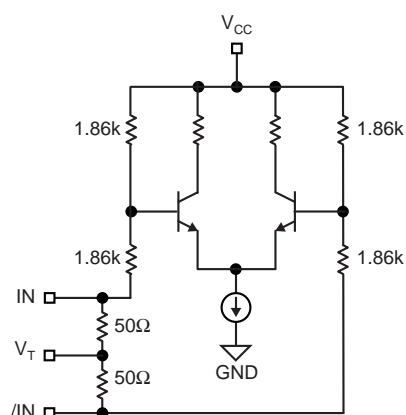

Figure 2a. Simplified Differential Input Buffer
**Note 3.** Due to the internal termination (see Figure 2a) the input current depends on the applied voltages at IN, /IN and  $V_T$  inputs. Do not apply a combination of voltages that causes the input current to exceed the maximum limit!